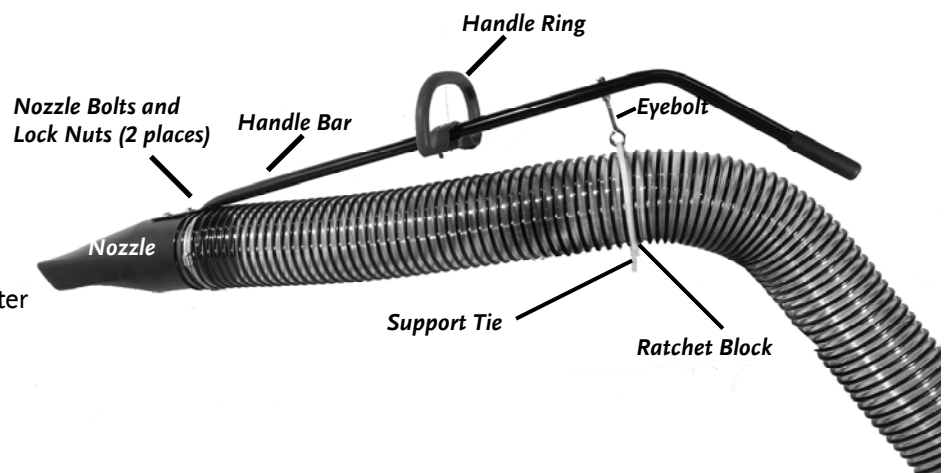

Figure 1
NOTE: The Hand Vacuum Hose shipped partially assembled. The following instructions detail the steps required to assemble the Handle Bar to the Nozzle and the Support Tie for the Hose (**Figure 1**).
1. The Handle Ring shipped in a position suitable for packaging with the Ring Clamp Bolt only partially tightened. Rotate the Handle Ring upward but do not tighten at this time (**Figure 1**).
2. Locate the two (2) Bolts protruding from the Nozzle, align the two (2) holes at the end of the Handle Bar, and add a Lock Nut on each Bolt (**Figure 1**). Tighten the Lock Nuts using a 1/2" wrench.
3. Thread the Support Tie through the Eyebolt and wrap it around the Hose. Pass the end through the Ratchet Block on the end of the Support Tie (**Figure 1**).
4. Pull the excess Support Tie through the Ratchet Block. Leave the Tie loop slightly larger than the diameter of the Hose. Do not over-tighten (**Figure 1**).